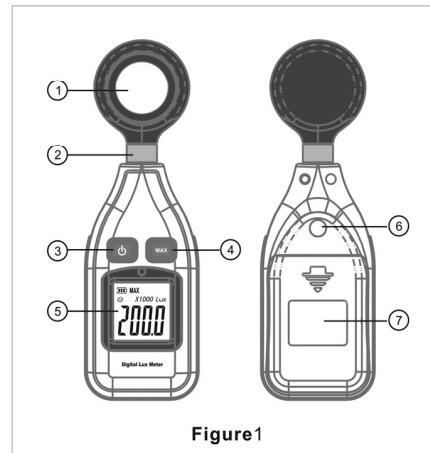

Figure1
C. Parts description (Figure 1)